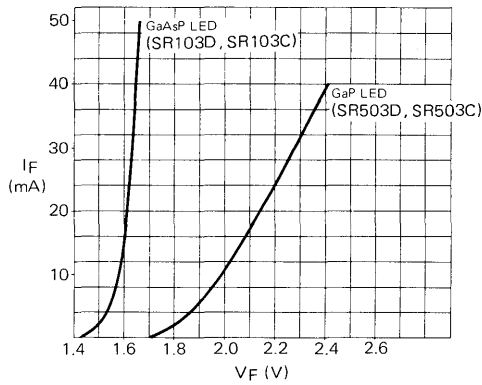

Fig. 3 $I_F - V_F$ Characteristic
(1) Fig. 3 shows V_F data for randomly chosen samples of SR503D, SR103D, SR503C and SR103C. (The samples are called here after Samples A, B, C and D, respectively.)
(2) When GaP red LED's such as SR503D and SR503C are substituted to a circuit which has been using GaAsP red LED's like SR103D and SR103C, the correspondence of I_F due to difference of V_F as shown in Fig. 3 will be expressed by the curves in Fig. 4.